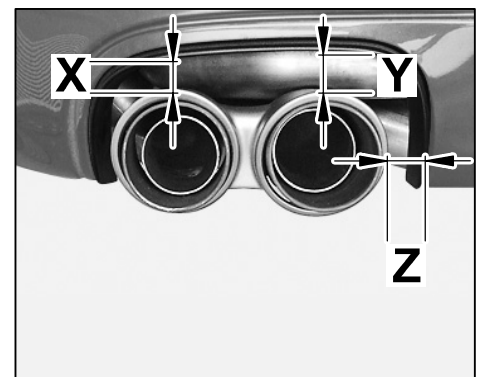

Figure 26
7.4.2 Tighten clamp ⇒ *Figure 26 -arrow A-* on the tailpipe cover hand-tight and align the tailpipe cover with the cut-out in the rear apron.